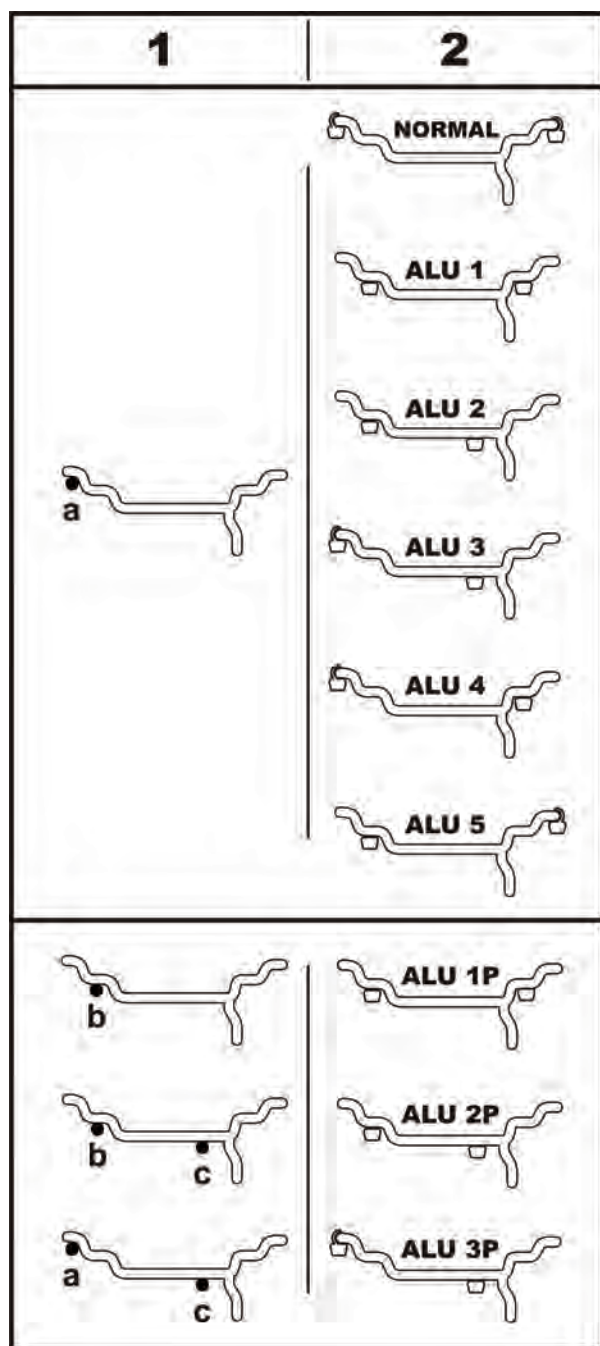

Figure 22
Fig. 22 shows the corrected reading positions of the SAPE arm (1), and the corresponding weight placement locations (2); for both adhesive weights and clip-on weights.